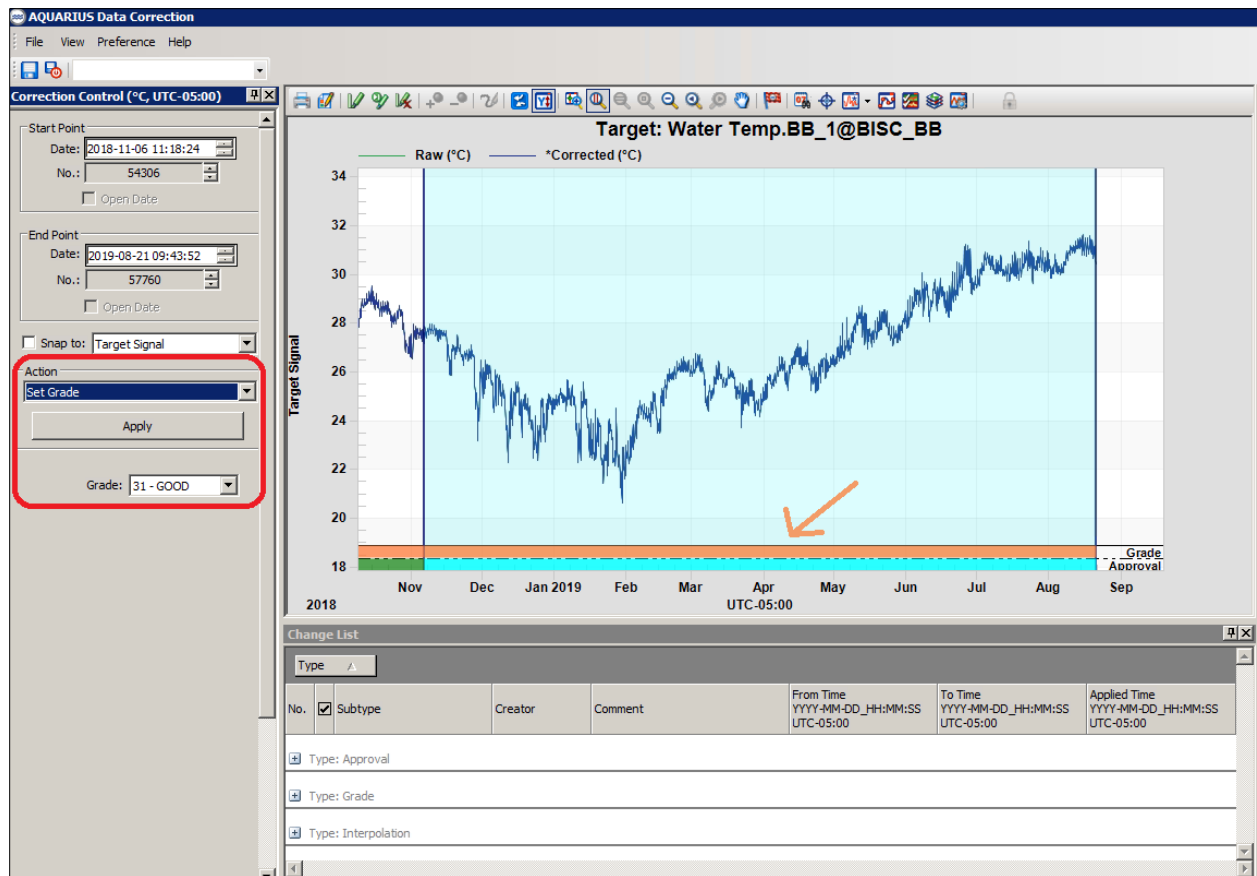

Figure 7. Screenshot showing the Action drop-down menu highlighted within the Aquarius Data Correction.
8. Review the graphed data (and individual values, if necessary) to ensure that the data appear as they should. If they look good, the Grade is set to “GOOD” and the Approval is set to “APPROVED” (Figure 7). On the left side of the window, select the option “Set Grade” from the “Action” drop-down menu. Under the “Grade” drop-down menu that appears, select “31 – GOOD.” Click Apply. Click OK in the window that appears. The top bar should now be orange instead of light blue, denoting a “GOOD” grade.